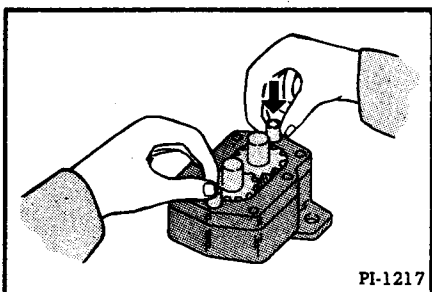

Fig. 142 Inserting the Dowel Pins
8. Insert the dowel pins through the large holes in the gear plate (Figure 142).